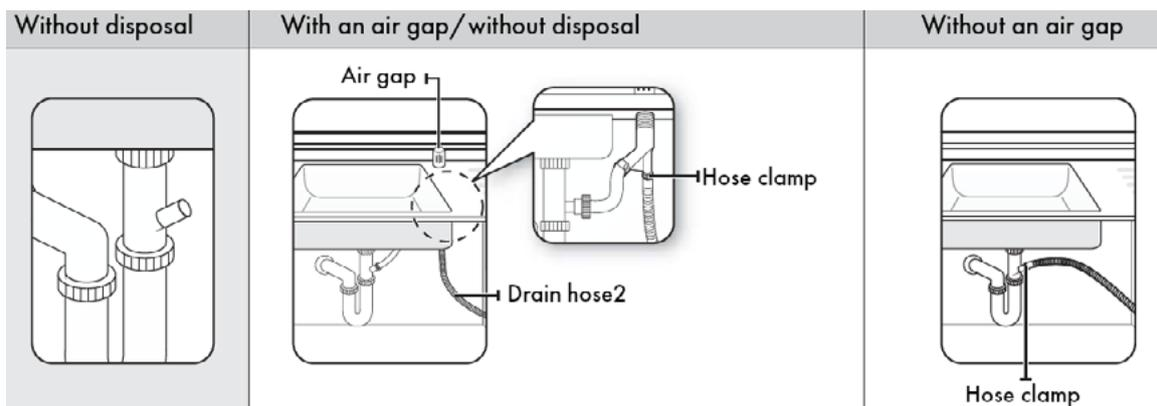

Figure 11
2. There are several ways to insert the drain hose into the drain hose connector of the sink, as shown in Figure 11 below. You must connect the drain hose in accordance with the drain pipe installation regulations in your region.